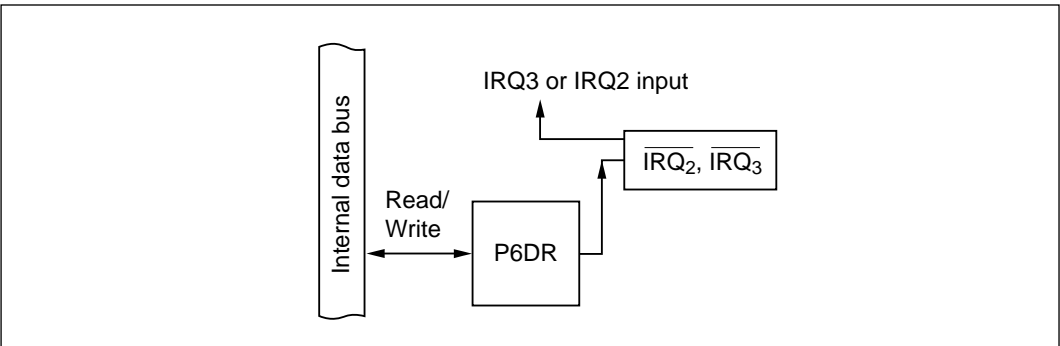

Figure 9-38 $\overline{\text{IRQ}}_3$ or $\overline{\text{IRQ}}_2$ Input Combined with General-Purpose Output (Modes 1 to 7)
(3) $\overline{\text{IRQ}}_3$ or $\overline{\text{IRQ}}_2$ Input Combined with General-Purpose Output (P6₁, P6₀; Modes 1 to 7): Figure 9-38 shows a block diagram illustrating the $\overline{\text{IRQ}}_3$ and $\overline{\text{IRQ}}_2$ input function of P6₁ and P6₀ when combined with general-purpose output. Table 9-29 indicates register read/write data. When P6₁ and P6₀ are used for $\overline{\text{IRQ}}_3$ and $\overline{\text{IRQ}}_2$ input they can also function as general-purpose output ports. If the general-purpose output function is used, however, output of a falling edge will cause an interrupt.